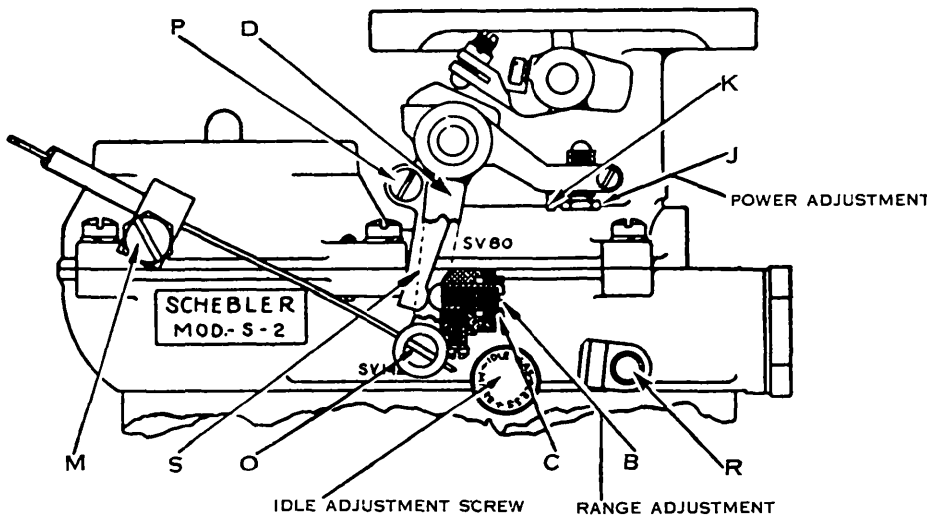

Fig. 4
**Idle Adjustment.**—Turn the idle adjusting knurl Fig. 4 to the right for a lean mixture and to the left for a rich mixture. To check the idle adjustment, warm up the motor thoroughly and by this we mean to have a hot motor. Then close the throttle, retard the spark all the way if the car has manual spark control and then adjust idle stop screw so that motor will not idle less than five miles per hour on the road. After you have the proper idle engine speed, then proceed to check the idle adjustment as follows: Turn the idle adjusting screw to the right (clockwise) turning slowly,
The adjustment is made by turning the range adjusting screw (B) Fig. 4 to the left for a lean mixture and to the right for a rich mixture in the driving range.
**Power Adjustment.**—Extensive research indicates that the carburetor will give the best mixture for maximum power on the hills or at high speeds when the power screw (J) Fig. 4 is flush with the pin (K) in high altitudes, however, more power may be obtained by leaning up on the power mixture—turning (J) to the left (counter-clockwise) three to five turns.